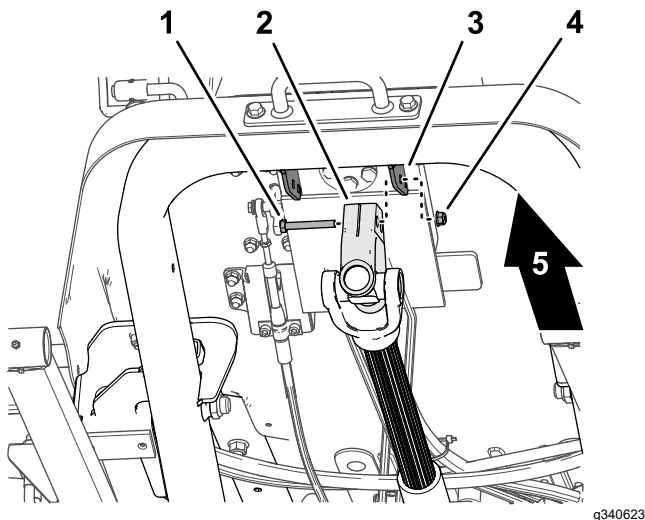

Figure 15
1. While supporting the driveshaft, remove the capscrew and locknut that secure the driveshaft yoke to the steering valve-mount bracket (Figure 15), and carefully lower the driveshaft.